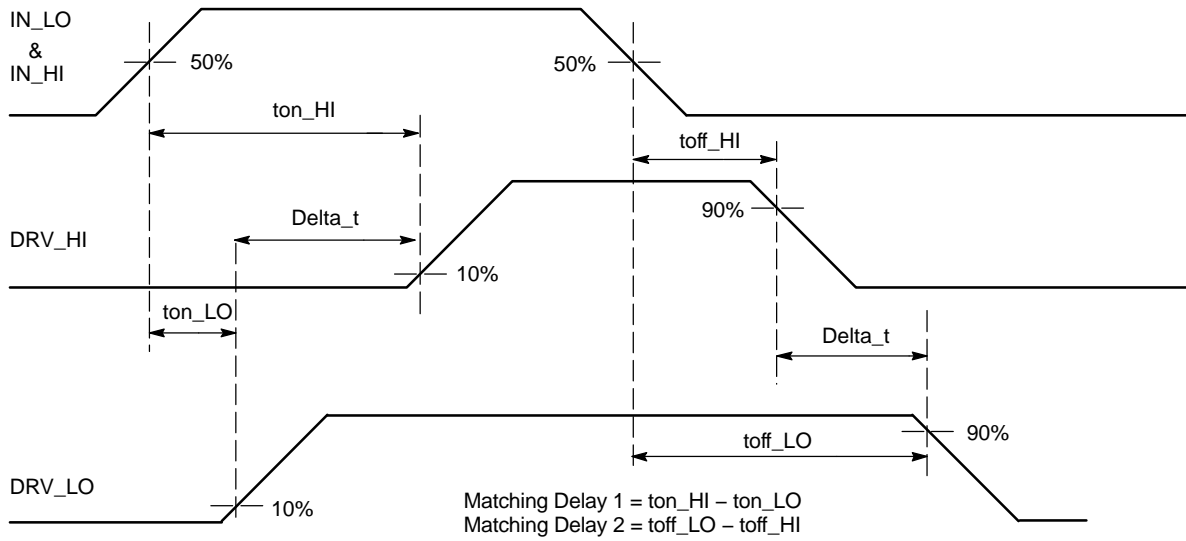
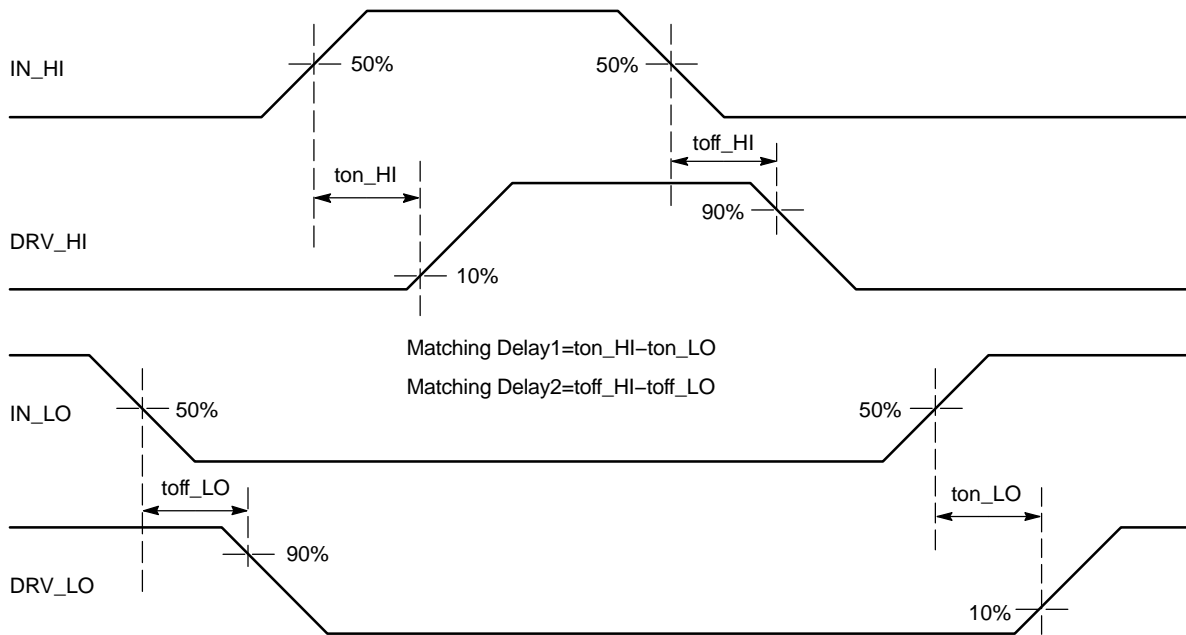

Figure 8. Matching Propagation Delay (A Version)
Figure 9. Matching Propagation Delay (B Version)
- Timing diagram definition see: Figure 7, Figure 8 and Figure 9.